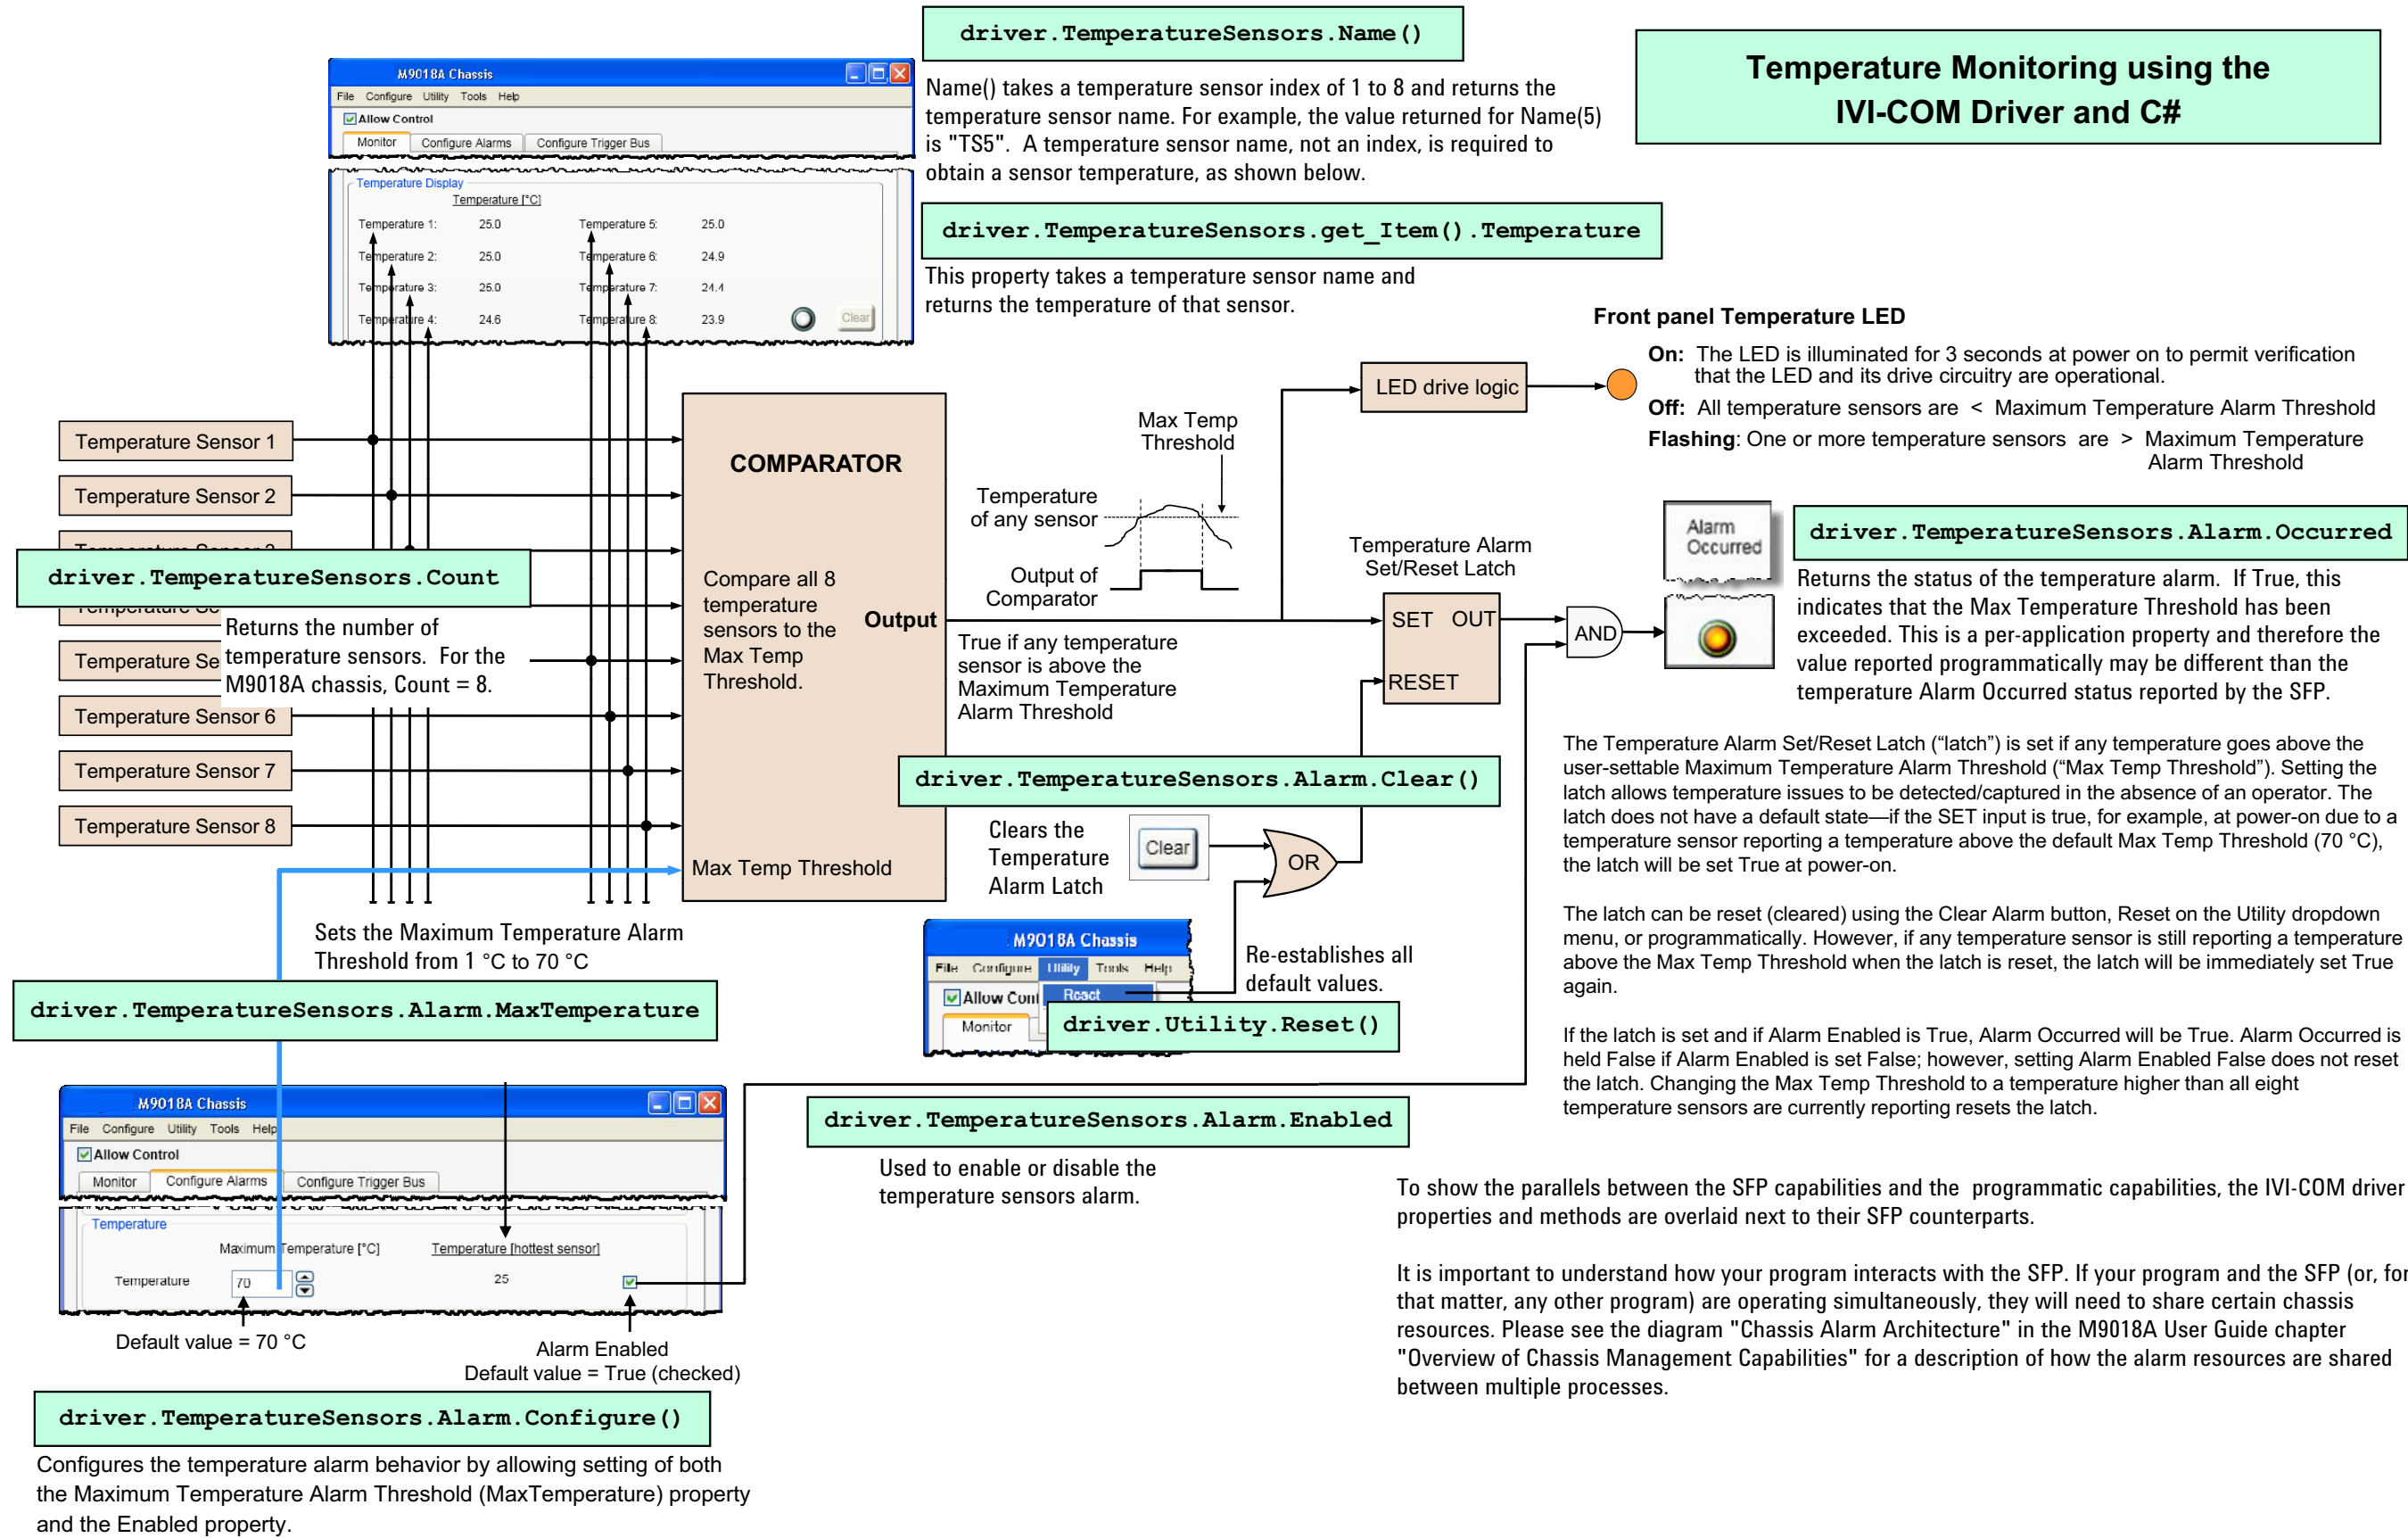

Figure 22 Temperature monitoring using the IVI-COM driver and C#
- IVI-COM driver and C# – Figure 22 on page 48